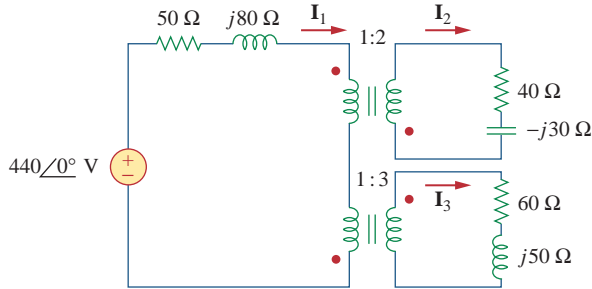

Figure 13.145
- 13.84** Determine I_1 , I_2 , and I_3 in the ideal transformer circuit of Fig. 13.145 using *PSpice*.